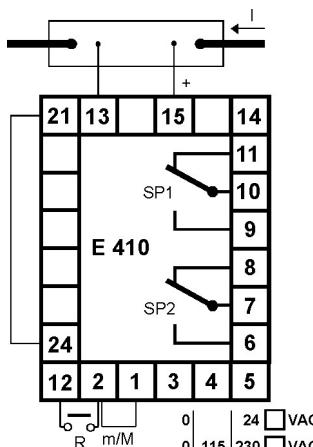

Fig.4
- **E 410A:** misura mediante shunt (60mV): pin 15-13 (+ su pin 15), eseguire il cavallotto 21-24 (fig.4).
- **E 410A:** it measures by means of a shunt (60mV): pin 15-13 (+on pin 15), make the jumper link 21-24 (fig.4).